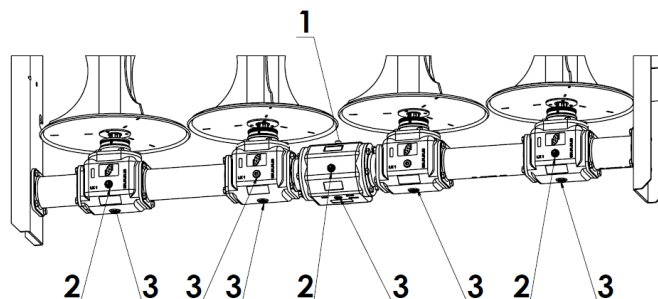

Figure 26 Oil level control points in the gear of the adapter:
To drain oil from the gear of the adapter (Figure 26), undo the drain plugs (3). Fill the gears with new oil through the oil filler (1), until oil becomes visible in the sight glass (2). If oil is visible in the middle of the sight glass, its level is correct. All the gear housings are interconnected in the gear of the adapter, which means that you only need to use the filler plug (1) on the central housing to top up and check the level of oil in the entire unit.